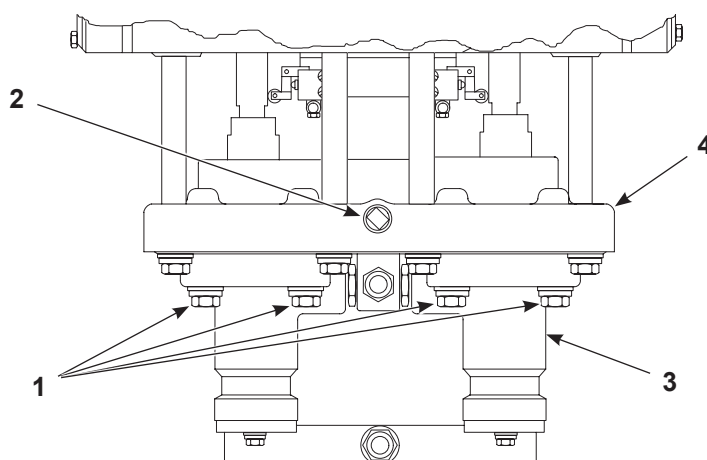
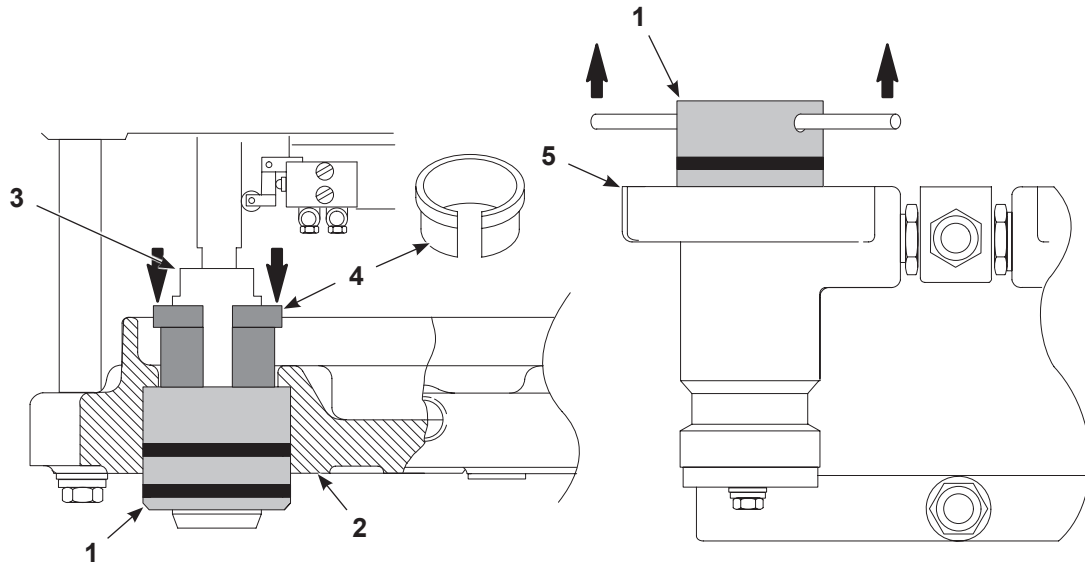

Figure 6-2 Removing Hydraulic Housings
Figure 6-3 Removing Packing Glands
2. See Figure 6-2. Remove the plug (2) and drain the solvent chamber fluid into the bucket.
3. Remove the eight screws, lock washers, and flat washers (1) securing the hydraulic housings (3) to the solvent chamber (4).
5. See Figure 6-3. Remove the packing glands. When you separate the hydraulic housings (2) from the solvent chamber (6), the packing glands (5) may remain in the chamber or in the housings.
1. See Figure 6-2 and Figure 6-3. Remove the hydraulic housings and the packing glands.
1. See Figure 6-2. Remove the hydraulic housings from the solvent chamber.